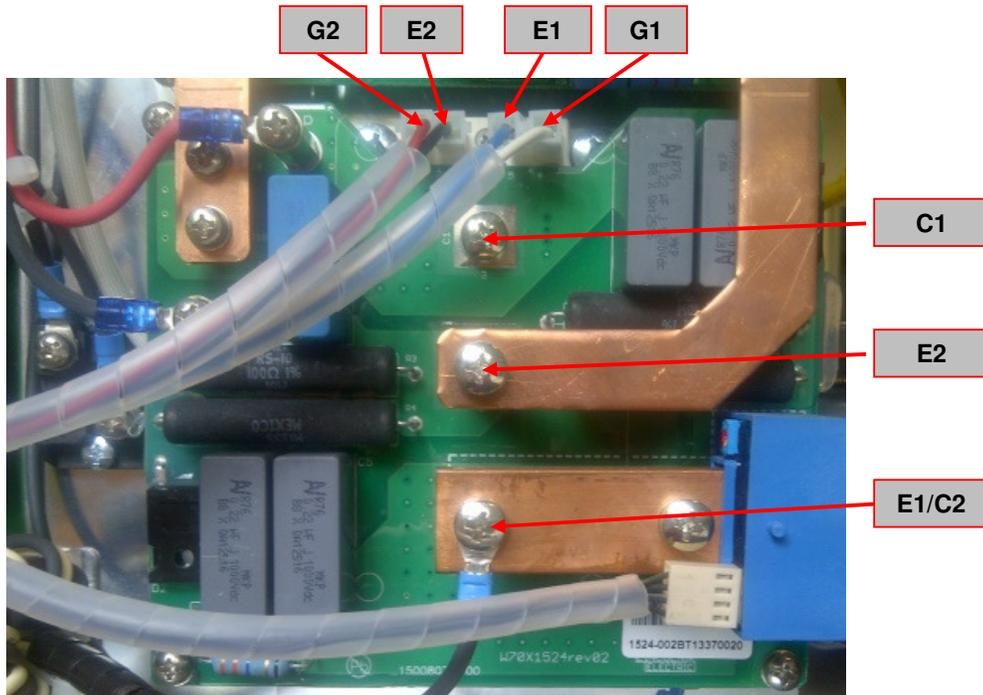

Figure 17 – W05X1524 IGBT board test points
6. Follow the **Test table 12** to perform the IGBT board tests. See **Figure 17** for Test Point locations.